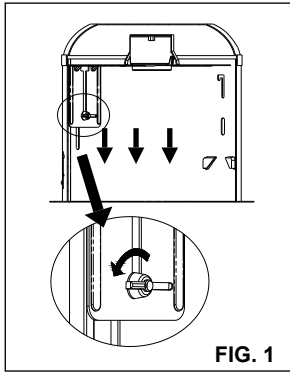

FIG. 1
- 1.Unscrew the WING NUT inside the CAN to detach the SOCKET BRACKET from the CAN. Disengage the SOCKET from the SOCKET BRACKET. **(FIG. 1)**